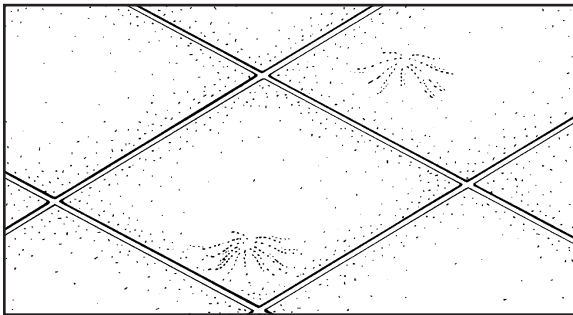

Fig. 7.
- Although the Perimeter Fastening Installation system reduces the likelihood of subfloor show-through, it will not hide such items as protruding staples, nailheads, or grit (Figure 7). The subfloor requires thorough cleaning to remove all traces of grit and dirt.